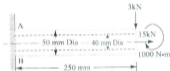

Figure 2
- (b) A hollow shaft, as shown in *Figure 2*, is subjected to a bending load of 3 kN, pure torque of 1000 N-m and an axial pulling force of 15 kN. Calculate the stresses at A and B. [15]